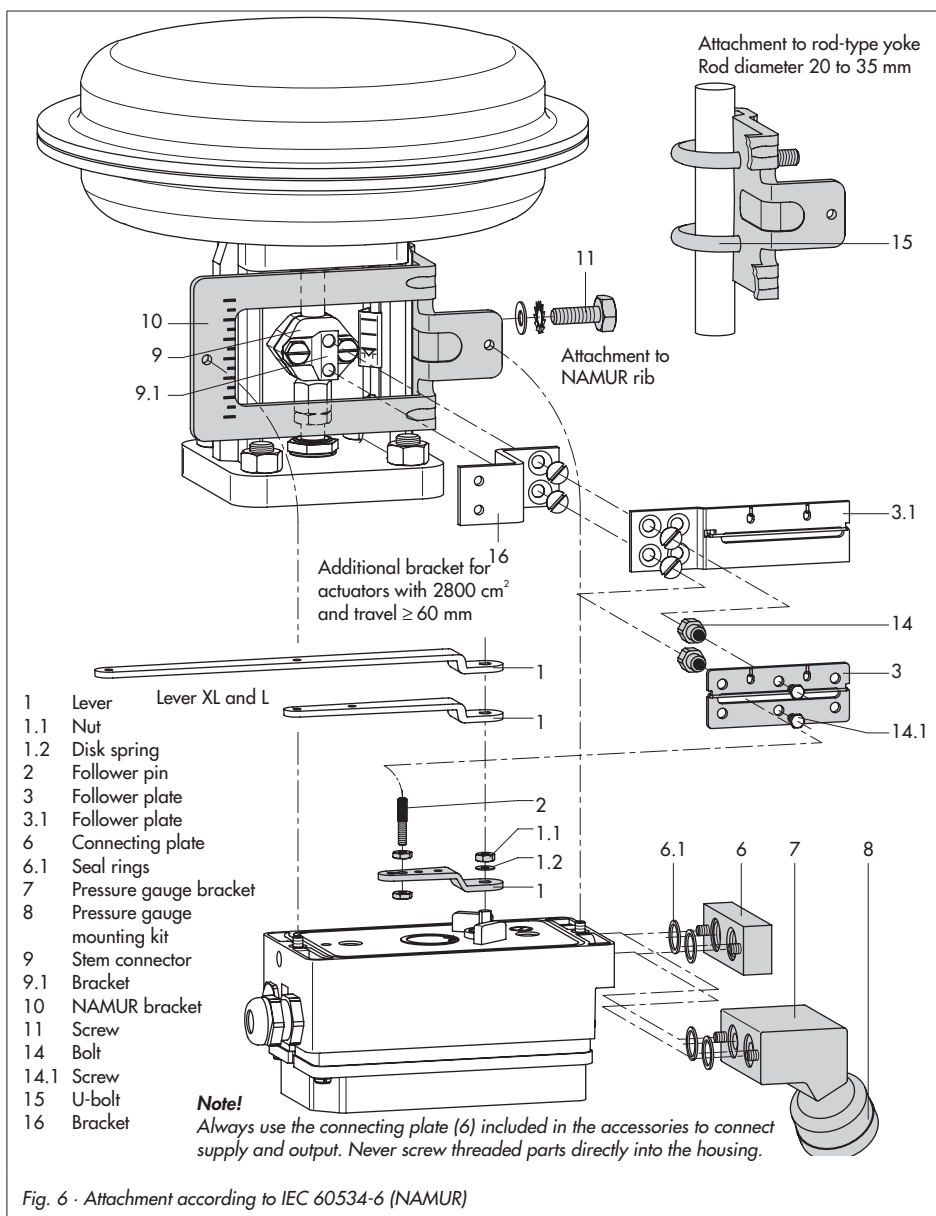

Fig. 6 · Attachment according to IEC 60534-6 (NAMUR)
**For the pneumatic connection** either a connecting plate (6) or a pressure gauge bracket (7) must be fixed to the housing, depending on the accessory chosen. Make sure the seal rings (6.1) are correctly inserted (see Fig. 6, bottom right).